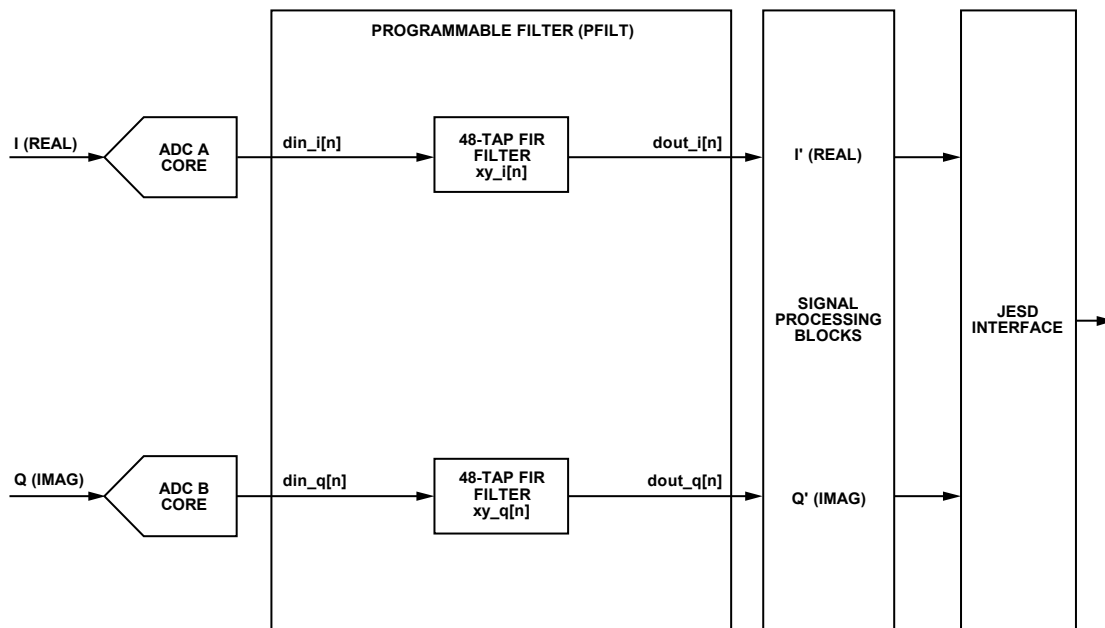

Figure 66. Real 48-Tap Filter Configuration
- Real 48-tap filter for each I/Q channel (see Figure 66)